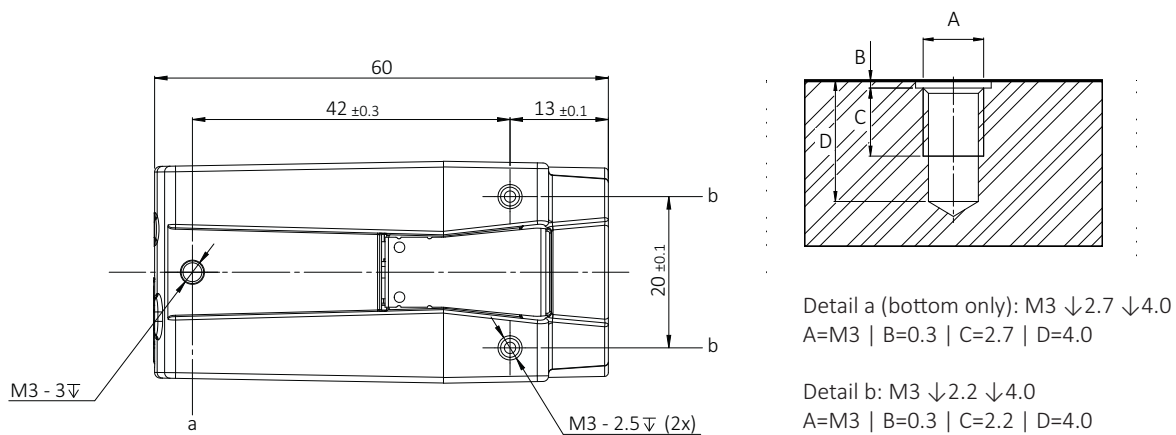

Figure 38: Mounting threads bottom (a and b) and top (b)
1. As shown in Figure 38, mount the camera to the base using suitable M3 screws
- a. Mounting thread a (bottom only): At 0.62 Nm maximum torque for a thread engagement (C) of 2.7 mm between screws and mounting threads.
- b. Mounting thread b: At 0.51 Nm maximum torque for a thread engagement (C) of 2.2 mm between screws and mounting threads.